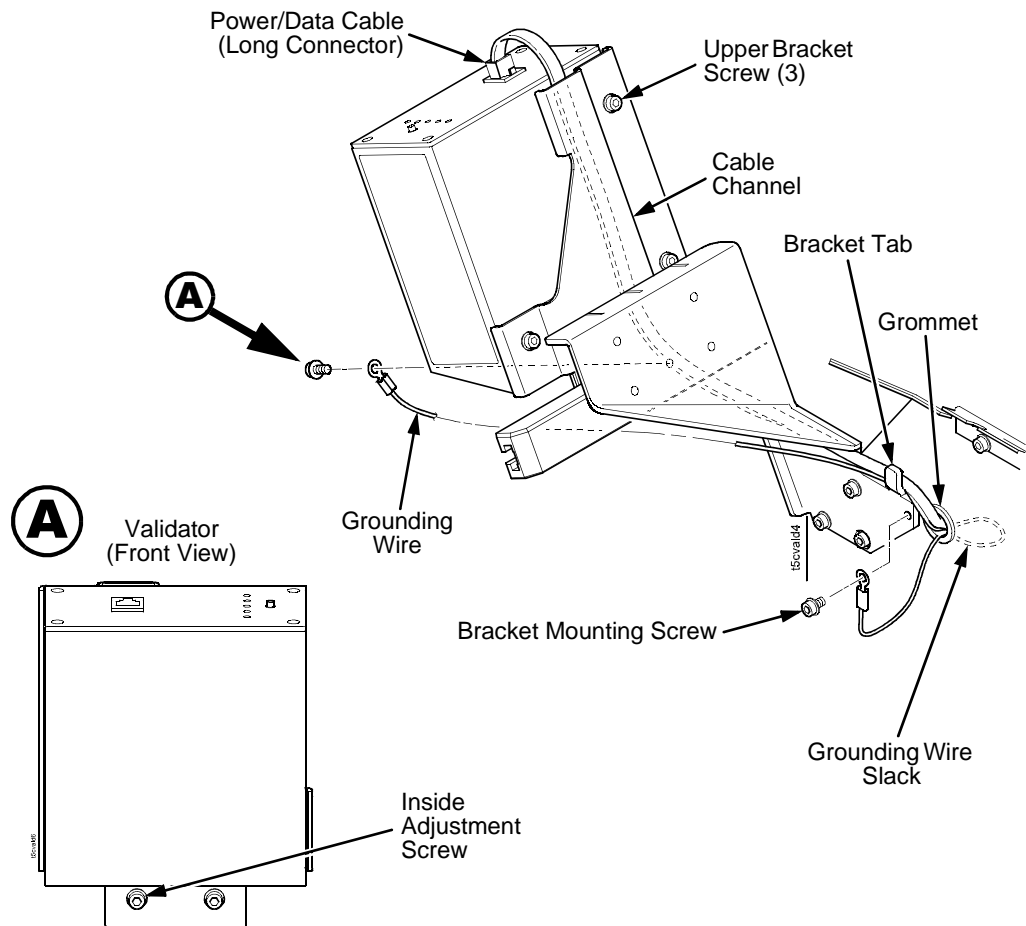

Figure 10. Attaching the Grounding Wire and Power/Data Cable
1. Attach one end of the grounding wire to the validator using the inside adjustment screw as shown in Figure 10.
2. Attach the other end of the grounding wire to the lower bracket using the fourth bracket mounting screw as shown in Figure 10.
4. Loosen the three upper bracket screws and route the power/data cable through the cable channel in the upper bracket, as shown in Figure 10.
6. Route the power/data cable behind the bracket tab as shown in Figure 10.